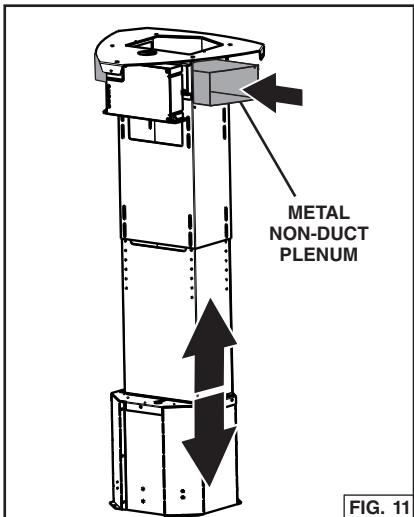

FIG. 11
- a. If the unit is non ducted, insert the Metal Non-Duct Plenum into the hood body. Fig. 11.